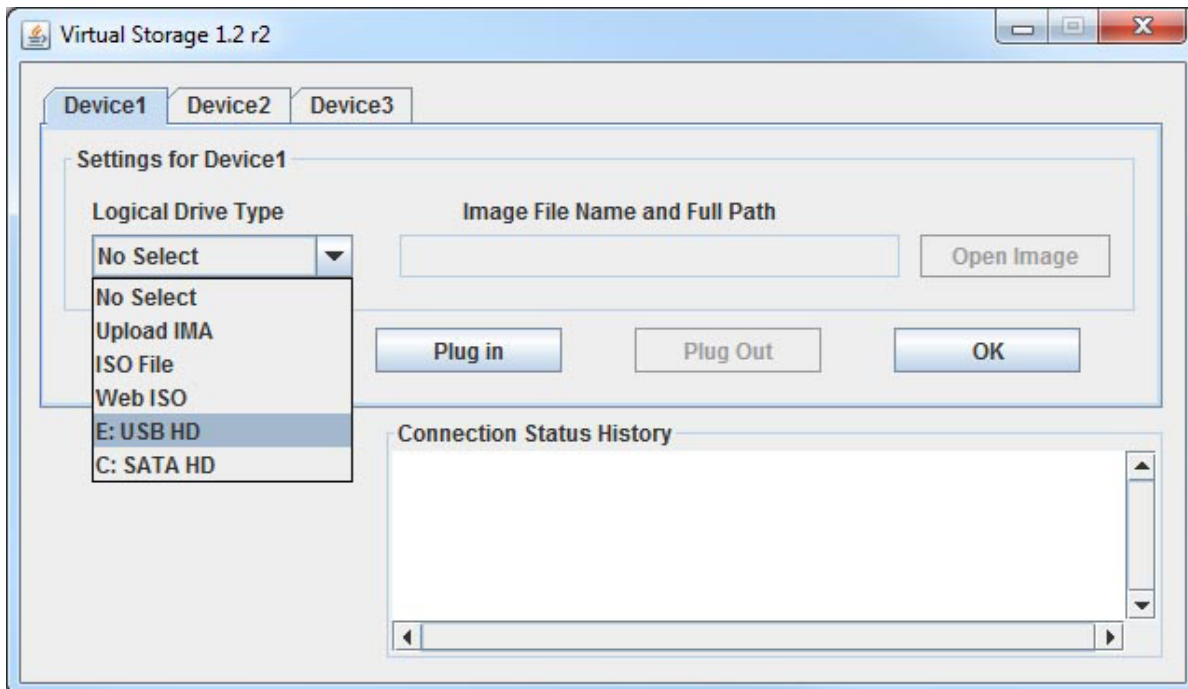

Figure A-8. Selecting a USB Flash Drive
- If you wish instead to download the BIOS update from a USB Flash drive, then insert the flash drive into your system and select it from the Logical Drive Type menu (Figure A-8).